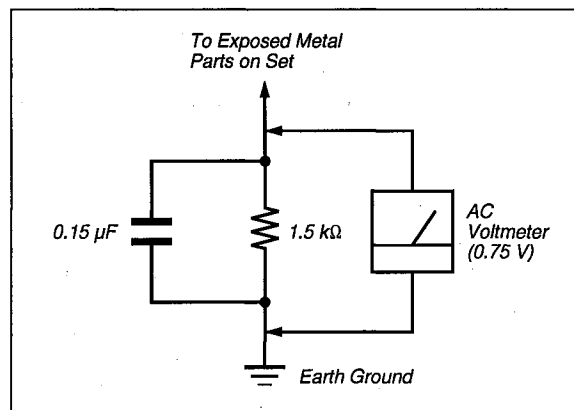

Figure 1. Using an AC voltmeter to check AC leakage.
3. Measuring the voltage drop across a resistor by means of a VOM or battery-operated AC voltmeter. The "limit" indication is 0.75 V, so analog meters must have an accurate low-voltage scale. The Simpson 250 and Sanwa SH-63Trd are examples of passive VOMs that are suitable. Nearly all battery operated digital multimeters that have a 2 VAC range are suitable. (See Figure 1)